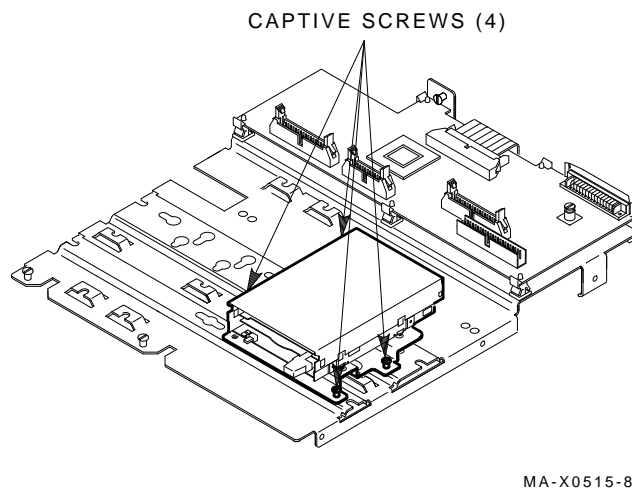

Figure 2-3 Mounting the RX23 Diskette Drive
2. Position the RX23 on the drive plate (Figure 2-3) and tighten the four mounting screws.